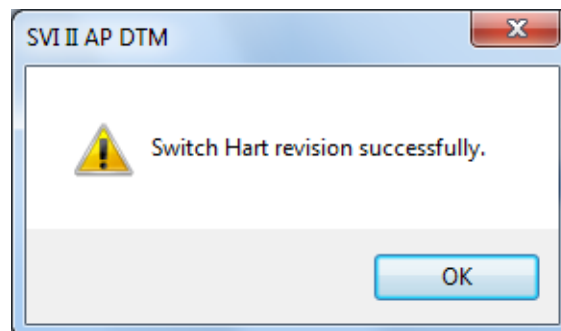

Figure 105 Success
3. Click **OK** and Figure 105 appears.